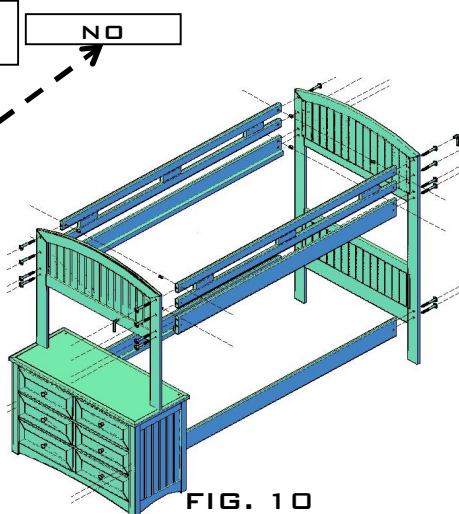

FIG. 10
- 4.- ATTACH TWO SIDE RAILS (F),TWO GUARD RAILS (G) TO HEADBOARD (A)&TOP BUNK BED (B),INSERTING TWO 80MM FLAT HEAD BOLTS (H) INTO HEADBOARD&TOP BUNK BED HOLES.USE THE 5MM ALLEN WRENCH (j) TO TIGHTEN BOTH FLAT HEAD BOLTS (**DO NOT TIGHTEN COMPLETELY UNTIL ALL PIECES ARE CONNECTED TOGETHER**),REPEAT THE SAME PROCESS AT ALL FOUR CORNERS, SEE FIG.10
- 4.- ATTACH TWO SIDE RAILS (E), TWO GUARD RAILS (F) TO BOTH TOP BUNK BED ENDS (A), INSERTING TWO 80MM FLAT HEAD BOLTS (G) INTO TOP BUNK BED END HOLES, USE THE 5MM ALLEN WRENCH (I) TO TIGHTEN BOTH FLAT HEAD BOLTS (**DO NOT TIGHTEN COMPLETELY UNTIL ALL PIECES ARE CONNECTED TOGETHER**), REPEAT THE SAME PROCESS AT ALL FOUR CORNERS, SEE FIG.10